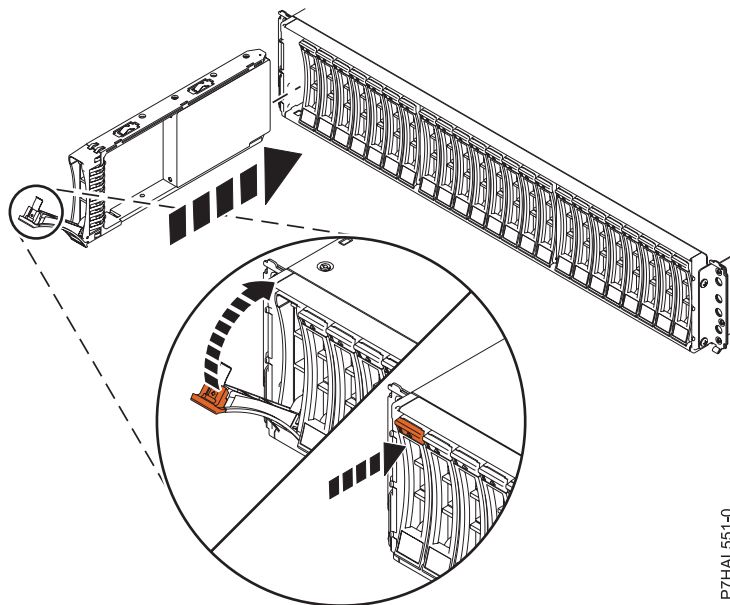

Figure 7. Installing the disk drive in the 58/87 disk drive enclosure
- With the handle in the unlocked position, see Figure 7 on page 15, support the bottom of the drive as you align it with the guide rails in the expansion unit.